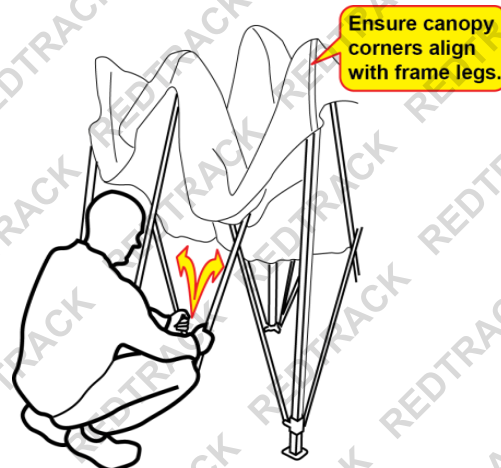
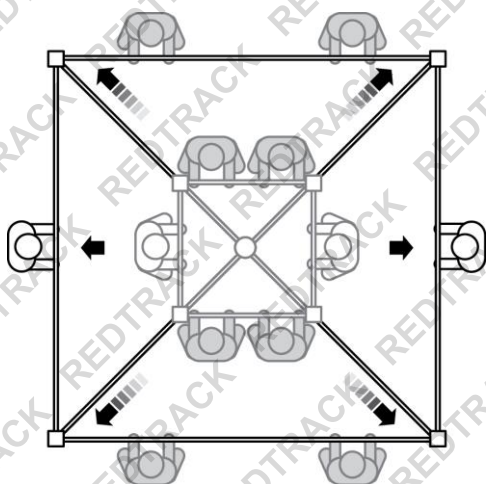

Fig 3 – Preparing to Expand the Frame
Fig 4 - Hold Frame, Lift and Expand
4. On opposite sides of the gazebo, grab the middle section of the frame with both hands (*Fig 3*). Simultaneously lift the sections of frame up and slowly move backwards, allowing the frame to expand to its full size (*Fig 4*). For larger model gazebos it is recommended to have 2 people on each long side of the frame (shaded figures in the image) and to lift together to expand the frame.